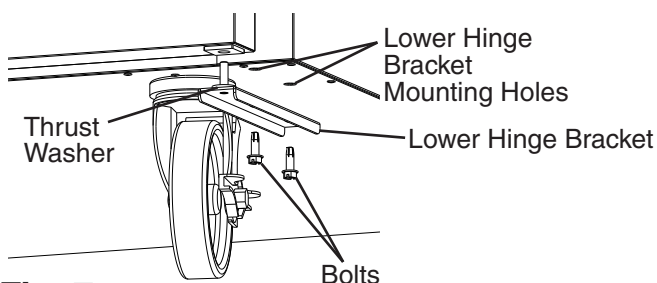

Fig. 7
- 5) Remove the lower hinge bracket. See Fig. 7. Be sure to leave the thrust washer in place.